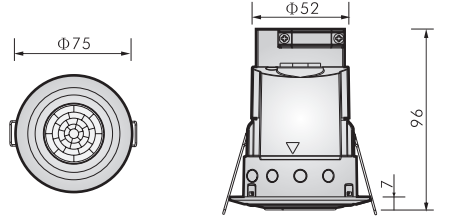

FIG.1
- MY-P109-RR / MY-P109-S: $\Phi 75 \times 96mm$ (See FIG.1)